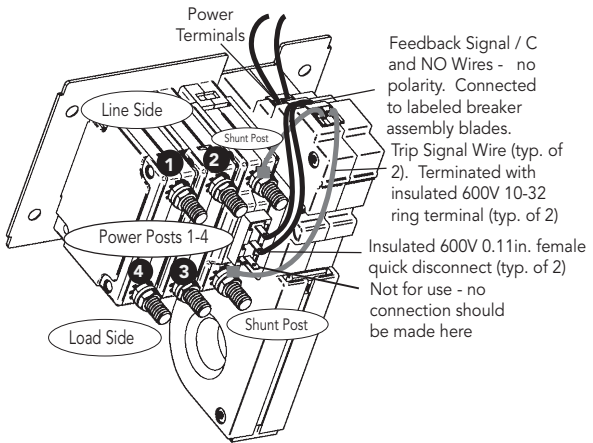

Figure 6. Pre-Wired GFPD-150V / Breaker Assembly
The GFPD-150V and breakers are assembled at the factory. Breaker shunt, (C) and (NO) leads are pre-wired to the GFPD-150V terminals - See Figure 6. The GFPD-150V external voltage source connections are described in the next section - Completing Wiring.
### 3.2.2 Completing Wiring - See Figures 6 and 7
**Step 2.** Crimp the supplied ring terminals on the ends of the (+) and (-) solar<->breaker conductors, and connect solar array (+) wire to post (4) (load side), and solar array (-) wire to post (2) (line side) using the supplied hardware (see Figure 6).
**Step 3.** Crimp the supplied ring terminals on the breaker side ends of the (+) and (-) breaker<->controller conductors. Connect breaker side (+) wire to post (1) (line side), and breaker side (-) wire to post (3) (load side) using the supplied hardware (see Figure 6).